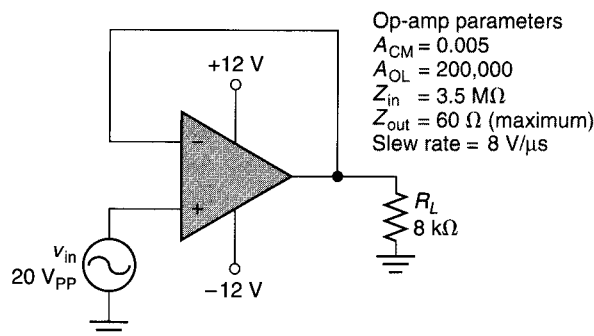

FIGURE 15.66
24. Perform a complete analysis of the voltage follower in Figure 15.66.